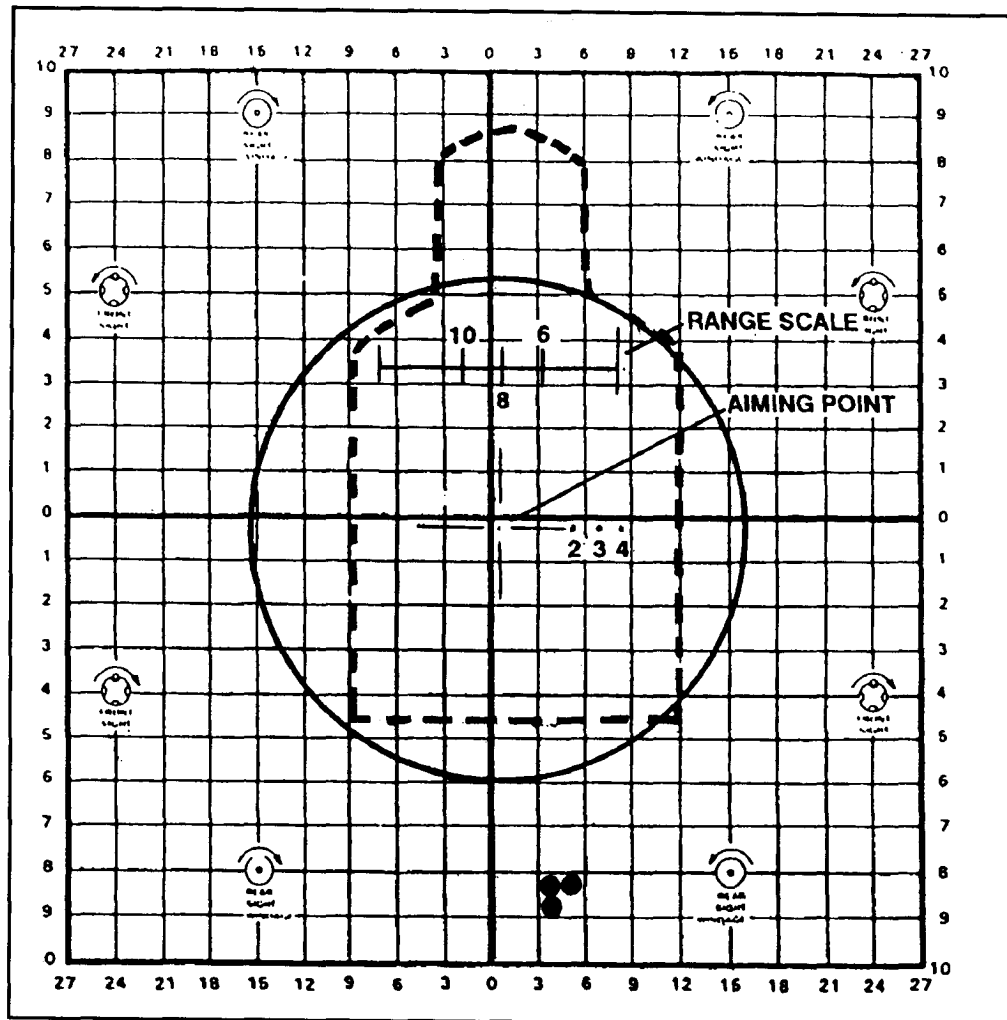

Figure 5-24. Shot group.
(1) Locate and triangulate the center of the shot group. From the center of the shot group, adjust the reticle to move the center of the shot group to a point 8 cm below and 2 cm right of the target aiming point (Figure 5-24, page 5-48). This location on the 25-meter zero target is 9 squares below (8 cm divided by .9) and 2 squares right (2 cm divided by .9) of the target aiming point. Make the adjustment using the AN/PVS-4 azimuth and elevation adjustment actuators. Each square on the 25-meter zero target is .9 cm. Each click of the actuators moves the strike of the round .25 cm (or .1 inch) at 10 meters.